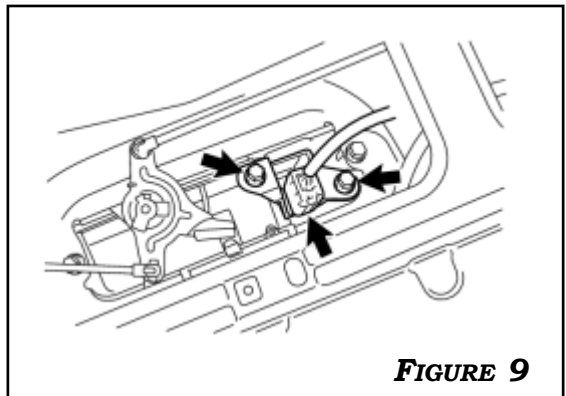

FIGURE 9
9. **DISCONNECT THE CONNECTOR AND REMOVE EXISTING WIRING CABLE IN TAILGATE.** REMOVE (2) 10MM BOLTS FROM DUMMY HOUSING. DISCARD DUMMY HOUSING. THE BOLTS WILL BE NEEDED LATER FOR THE CAMERA INSTALL. **FIGURE 9**